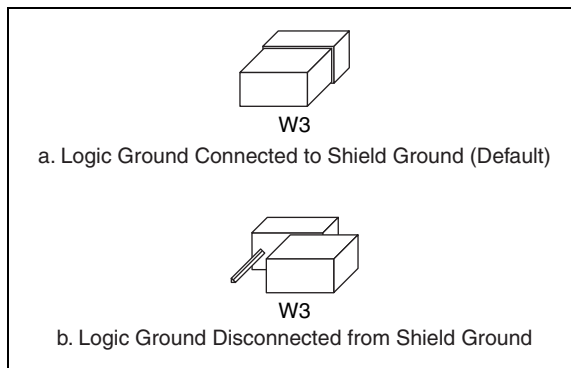

Figure 2. AT-GPIB/TNT Ground Configuration Jumper Settings
2. Remove the jumper and place it across only one of the jumper pins, as shown in Figure 2.